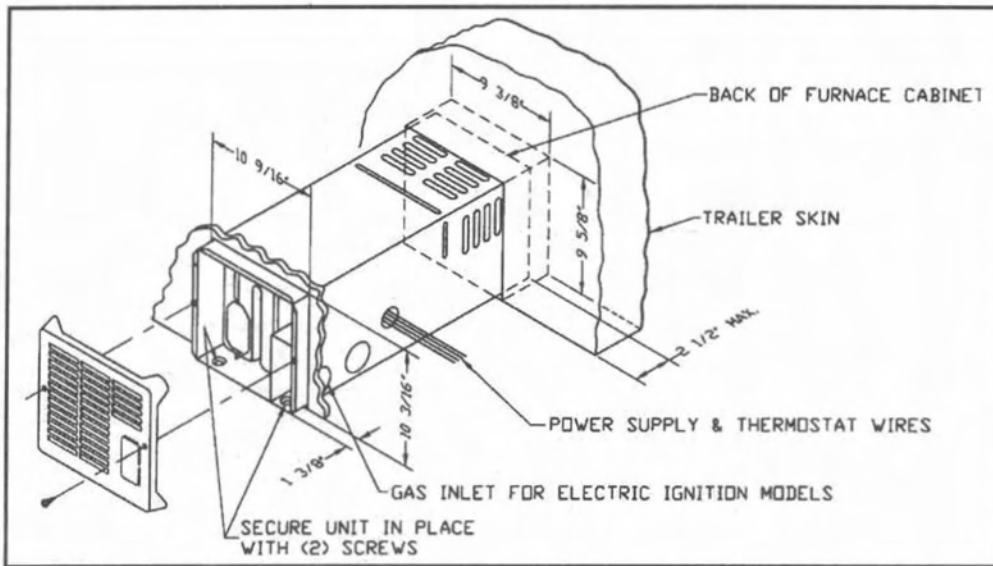
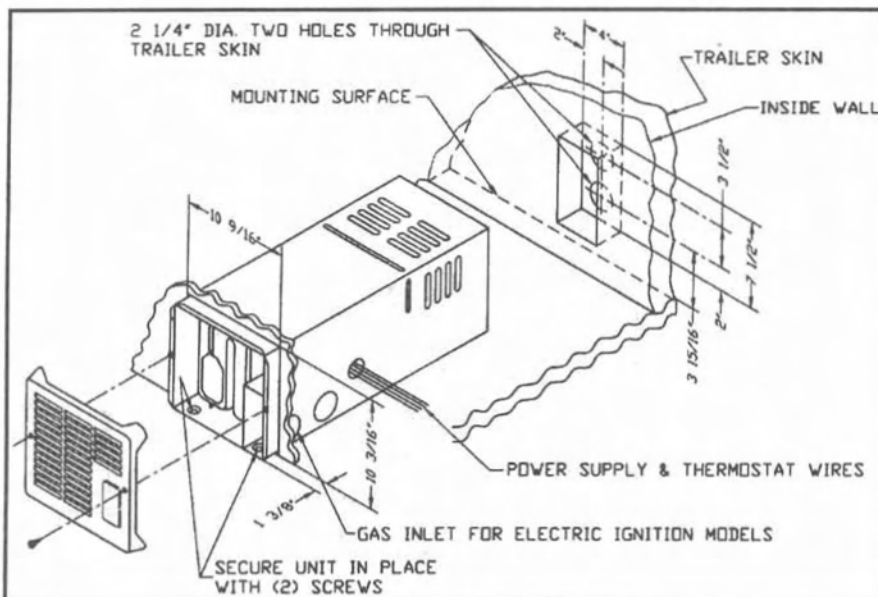
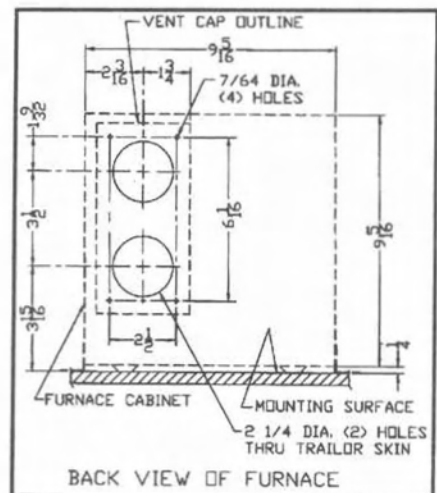
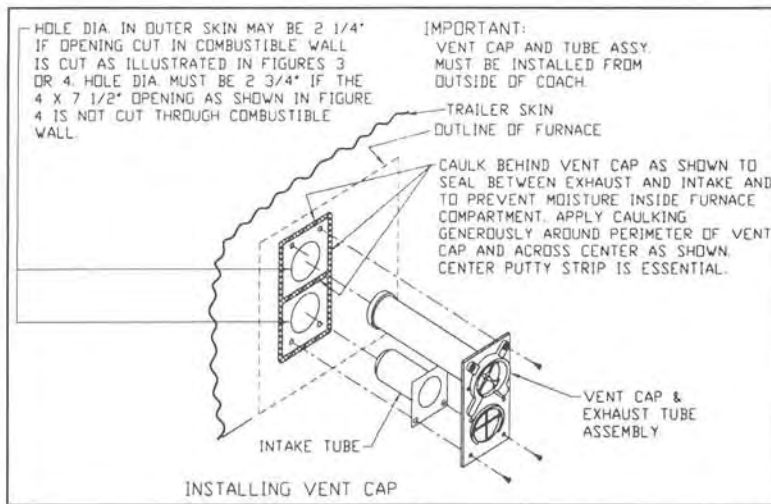

Figure 2
Figure 3
Figure 4
Figure 6
NOTE: Side and top clearances of furnace cabinet may be 0" for through the wall installations up to a maximum of 2 1/2" wall thickness (See Figure 2.)
4. Cut or frame an opening in the coach cabinetry 10 9/16" x 10 3/16" as shown in Figure 2 or Figure 3.
5. Slide the front of the furnace through the opening and extend it beyond the coach cabinetry 1 3/8" as shown in Figure 2 or Figure 3.
8. If X - Y is less than 21", then an opening 9 5/8" x 9 3/8" must be cut through the inner wall only. **DO NOT CUT THROUGH COACH SKIN.** (See Figure 2.) Next, locate the center line of the exhaust and intake tube. Cut two 2 1/4" diameter holes through the outer skin as shown in Figure 4.
NOTE: Whenever the furnace cabinet is installed through the outside wall, the return air louvers on the furnace cabinet must not be blocked. The maximum projection of the furnace cabinet into the wall is 2 1/2". (See Figure 2.)
a. Cut a 4" x 7 1/2" opening through combustible wall as shown in Figure 3. **DO NOT CUT THROUGH TRAILER SKIN.** Next, locate the center line of the exhaust and intake tube. Cut two 2 1/4" diameter holes through trailer skin. (See Figure 4.)
b. If you do not wish to cut the 4" x 7 1/2" opening, locate the center line of the exhaust and intake tube as shown in Figure 4. Next, cut two 2 3/4" diameter holes through trailer skin and also the combustible wall of the trailer as illustrated in Figure 6. Care must be taken when locating the center line of the exhaust and intake tube as well as when cutting the holes in order to assure a 3/8" clearance around the exhaust and intake tube to combustible materials.
11. Secure furnace to the floor using the two holes provided in the front area of the furnace cabinet. (See Figure 2 or Figure 3.)
1. Apply caulking to RV skin behind vent cap as shown in Figure 6. Apply caulking generously around perimeter of vent cap and across center as shown.